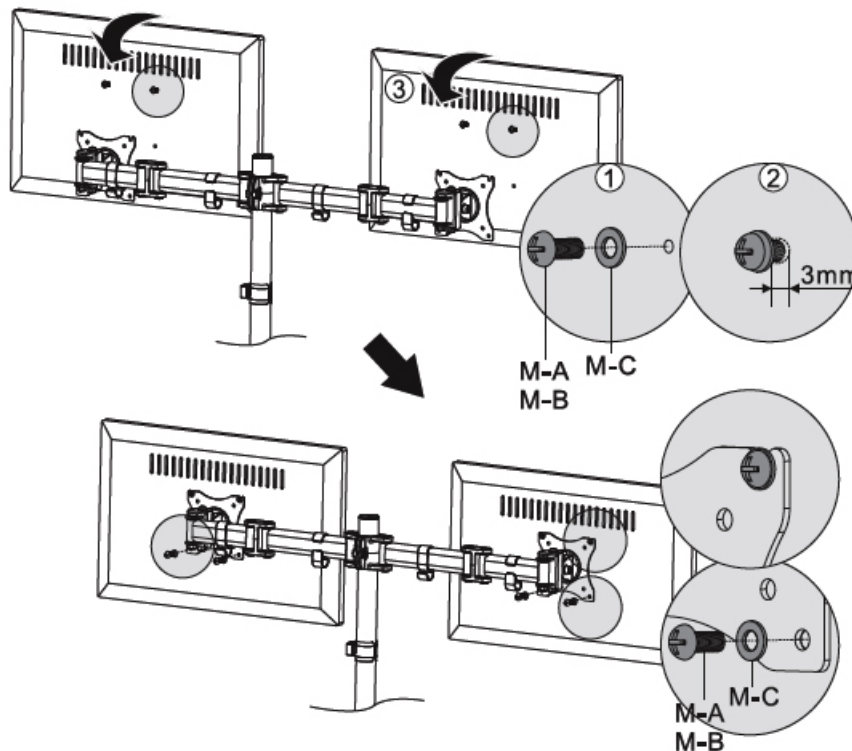

Figure 8
2. Mount the monitors to the VESA plate. Use either M4x12 Bolt (M-A) or M5x12 Bolt (M-B) with Washer (M-C) and tighten them using a Phillips screwdriver, see **Figure 8**.